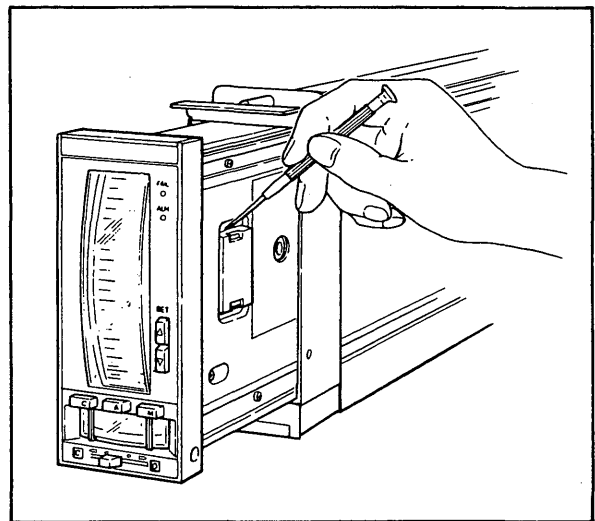

Figure 6-3-4. Removing Battery Cover.
- (1) Draw the ratio set station module out a short distance from the housing and remove the battery cover and the battery. (See Figure 6-3-4).